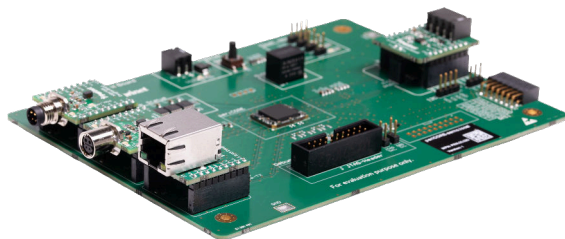

Figure 1: The periCORE Development Board.
- periCORE Development Board with periCORE module (Figure 1)